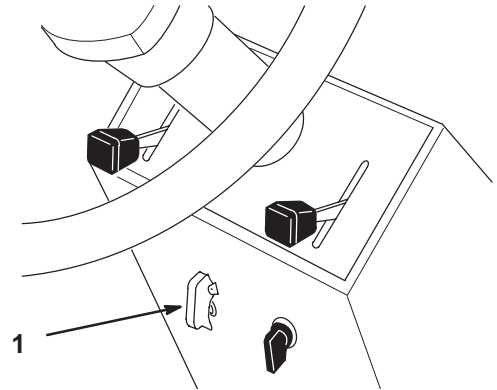

Figure 9
3. To engage lift cover and move the PTO switch to the on position (Fig. 9).
1. Closing the cover moves the PTO switch to the off position (Fig. 9).